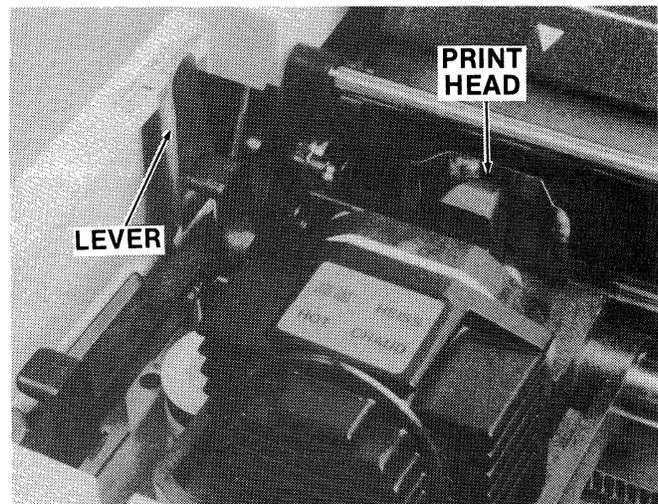
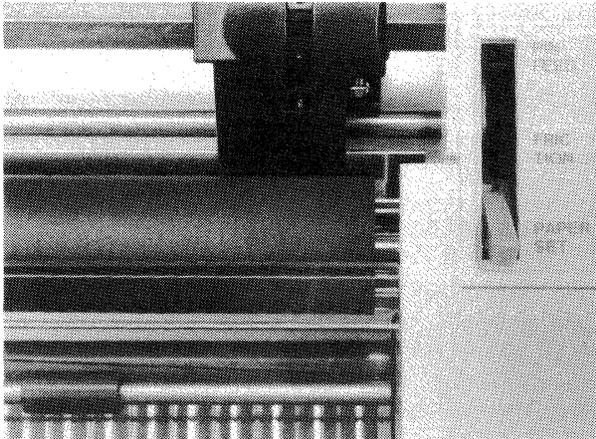

**Figure 2-2B Cut Sheet/Others Switch (Paper End Alarm Control)**
Figure 2-4A Paper Set Position
The CUT SHEET/OTHERS switch must be in the CUT SHEET position (Figure 2-2B). Otherwise the alarm will sound and the printer will go OFF LINE.
1. Place the control lever in the PAPER SET position (Figure 2-4A).
1. Place the control lever in the PAPER SET position (see Figure 2-4A). Place the alarm control switch in OTHERS position if desired (see Figure 2-2B).
2. If sheet paper is used, the alarm control switch must be in the CUT SHEET position (Figure 2-2B).